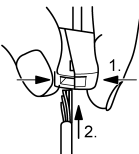

Figure 7: Connection of the fine-wire cable
- Push the terminal together on the side with the square opening and connect a fine-wire cable (Figure 7).